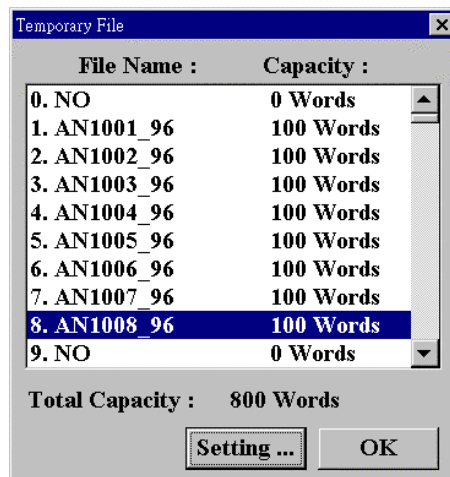

Fig. 4-14: Temporary File List
- 1) Choose the **Temporary File** in **Edit** menu or click **Temporary File** icon in the tool bar. A Temporary File Summary as in Fig.4-14 is popped up.